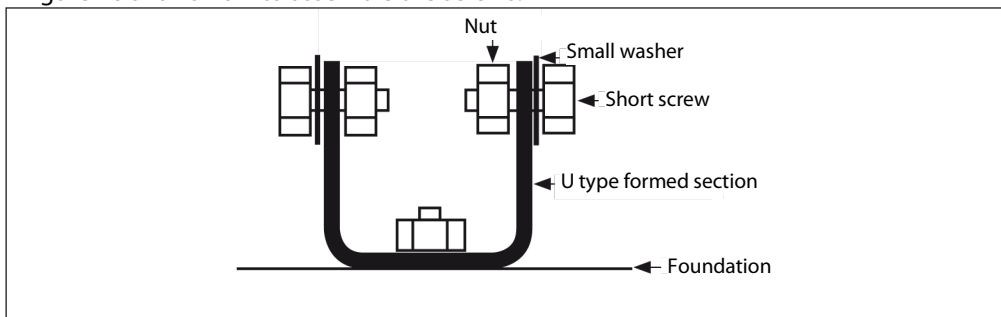

Figure 16
- Fit two short screws (20mm) to the U formed sections you previously fitted to the foundations. You will need a nut and a small washer for each screw. Figure 16 shows how to assemble the screws.